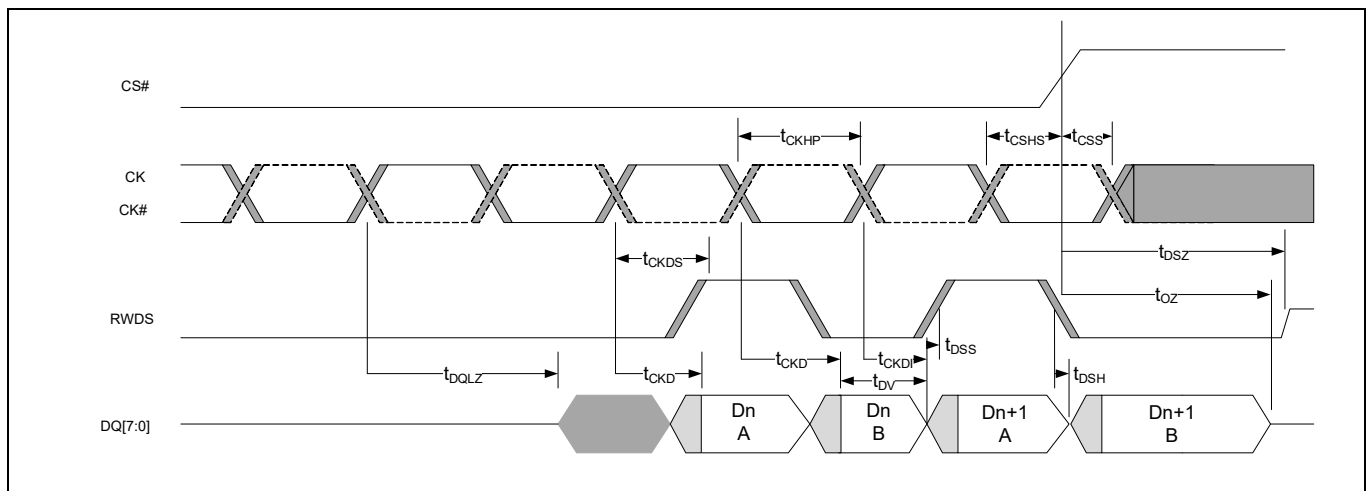

Figure 39 Data valid timing[53-55]
- 51. Refer to **Figure 39** for data valid timing.